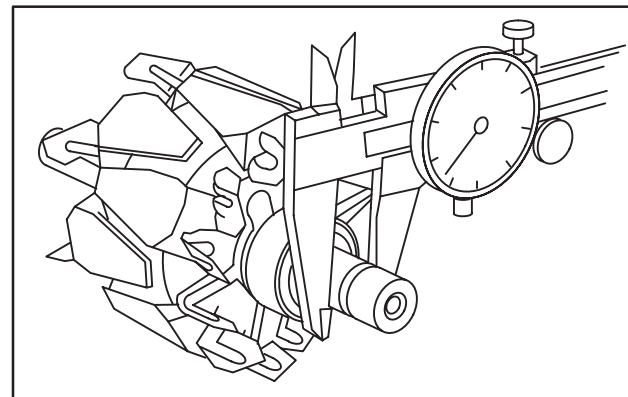

Fig. 31 – Check Slip Ring
3. Measure slip ring diameter, Fig. 31.